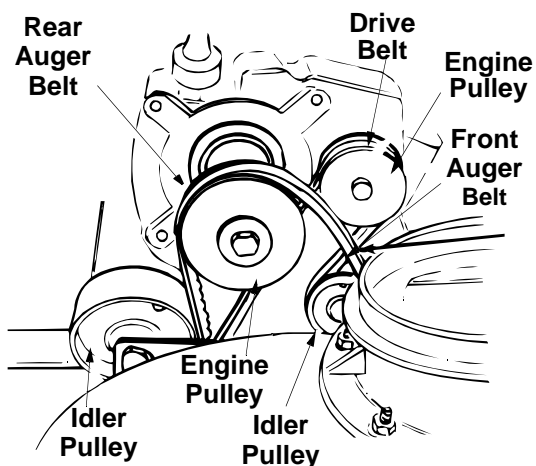

Figure 29
5. Roll the front and rear auger belts off the engine pulley. See Figure 29.
2. Pull idler pulley up, and lift belt off engine pulley, idler pulley, and friction wheel disc. See Figure 29.